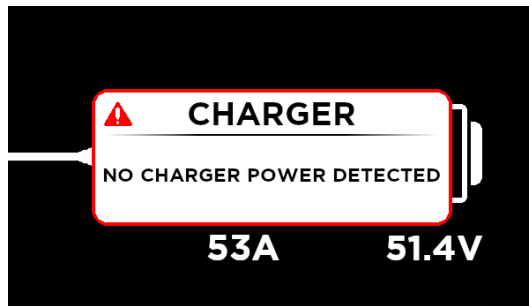

Fig. S3
- 2) A fault code "No Charger Power Detected" will come up on display screen until the charger is turned on. (Fig. S3 & S4) (If state of charge is over 95% fault code will not display) Fault code goes away